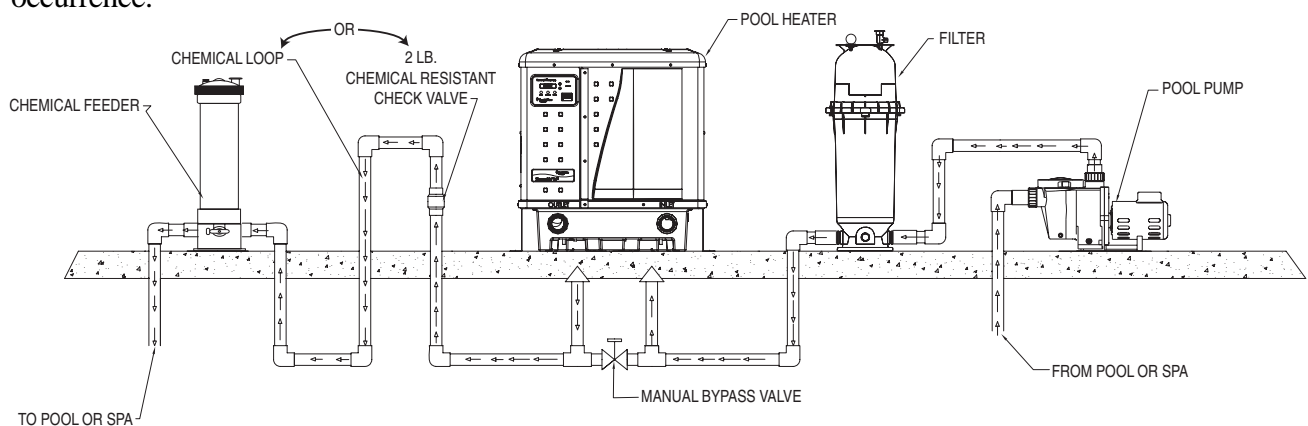

Figure 6. Standard Plumbing Layout
See Figure 6, illustrating the standard plumbing layout with a single heat pump unit. Following the diagram from right to left, the plumbing sequence is as follows:
The heat pump must be protected from back-siphoning of water. If there is any chance of back-siphoning, provide a check valve between the pool and the heat pump outlet. Arrangement of pool system components other than as illustrated in Figure 6 and the following diagrams can affect the operation of the heat pump's water pressure switch. Location of the heat pump above or below the pool water surface can also affect operation of the switch. In general, the pressure switch can be adjusted to accommodate this effect if the heat pump water connections are no more than six (6) feet below the pool water surface or no more than fifteen (15) feet above it. See instructions for pressure switch adjustment (page 16) in the heat pump start-up section of this manual for more information. If the heat pump is installed outside of this range, an external pressure switch may need to be installed in the plumbing upstream of the heat pump. Call the Pentair Water Heat Pump Technical Service department at (800) 831-7133 for details.
The inlet/outlet header of the heat pump comes equipped with an internal automatic flow control valve. The automatic flow control valve maintains the proper flow through the heat pump at rates up to 125 gpm (475 lpm). If the filter system flow rate is higher than 125 gpm (475 lpm), install a manual bypass valve, see Figure 6 on page 7.